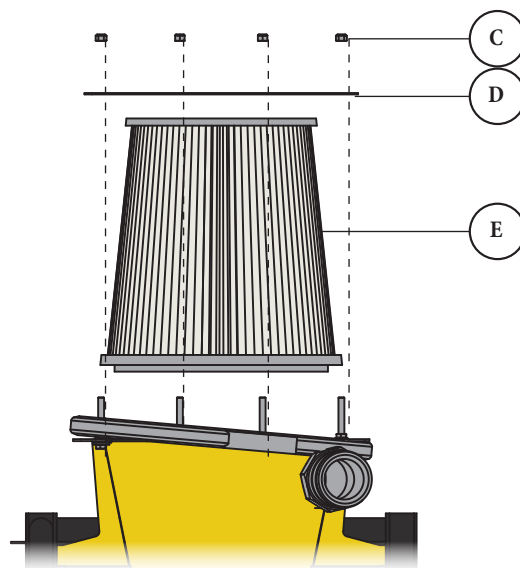

FIG. 4
Slide the Filter Hold-Down Plate (D) over the Filter (E) and the installed bolts and secure in place using four Nylock Nuts (C) [FIG. 4].